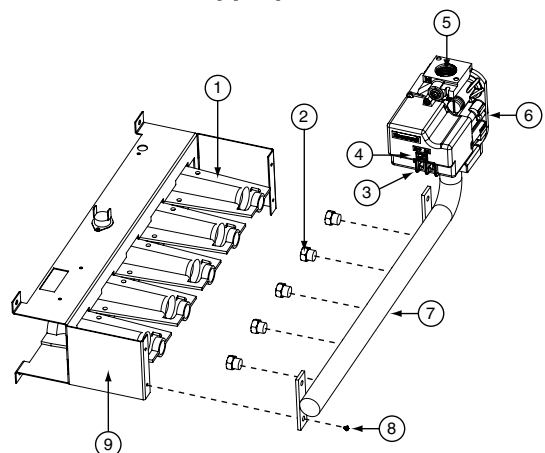

Figure 1. Burner & Manifold Assembly
5. Move the gas valve ON/OFF switch (4) to the OFF position as shown in Figure 1. For For VR8205Q2381 gas valves, turn the knob to the OFF position.
6. Remove the wires from the terminals (3) of the gas valve (6).
7. Remove the supply gas piping from the gas valve inlet (5).
8. Carefully remove four screws (8) securing the gas manifold assembly (7) to the burner assembly (9).
9. Set the screws (8) aside and remove the gas manifold assembly (7) from the appliance.
10. Carefully remove the burner orifices (2) from the gas manifold assembly (7).